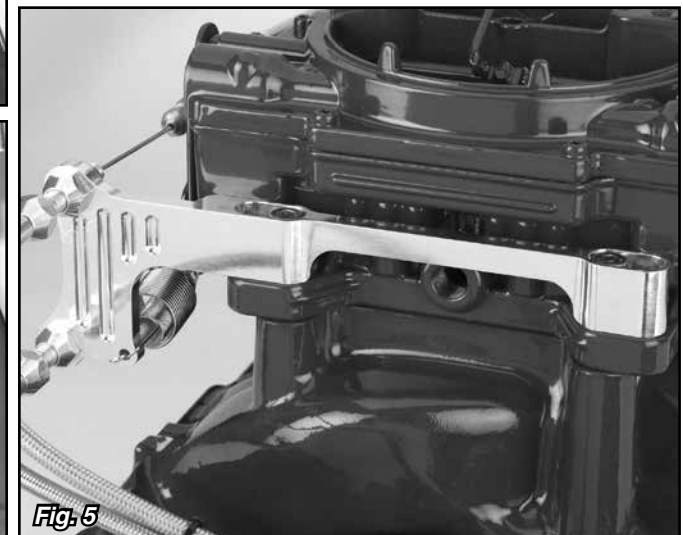

Fig. 5
Step 4: Install the Lokar Throttle Cable and/or Kickdown Kit according to the instructions included with those parts. See **Fig. 5** for a completed installation with Lokar Throttle Cable and Kickdown Kit.